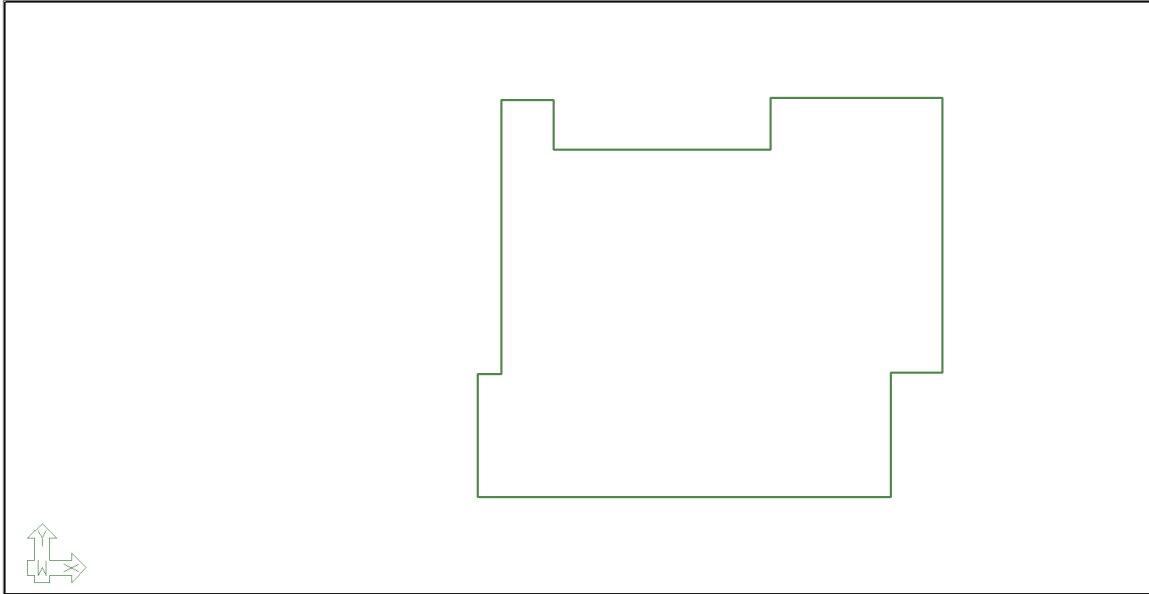

FIGURE 5-10
- Go to *Model->Transform* and click on the **Transform Slab**  icon. This will automatically create the ADAPT-Builder slab object based on the outline of the polyline from the DWG as shown in **FIGURE 5-10**.